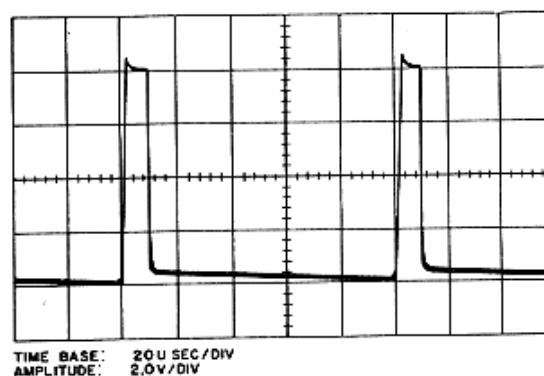

Figure 6.16 – Q9, Collector Waveform
j. Reconnect oscilloscope to collector of 10 kHz multivibrator stage Q9 (top of R28). The observed waveform should resemble the one shown in figure 6.16.
d. Connect oscilloscope to the junction of R26 and the collector of Q9. Set R24 to the center of the range which results in a waveform with time between pulses equal to and amplitude close to those shown in figure 6.16.